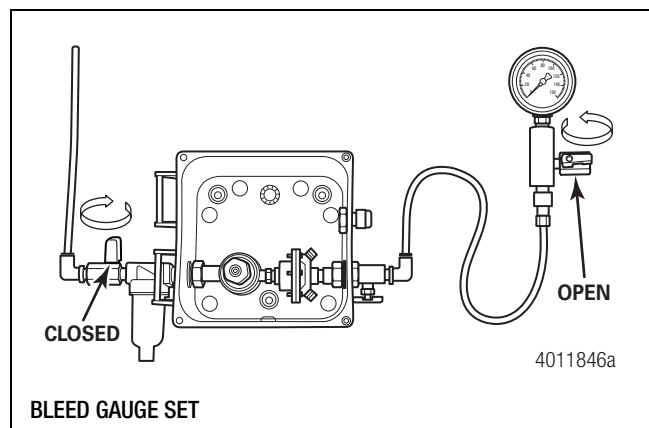

Figure 3.14
- A. Bleed the gauge set as follows. Figure 3.14.